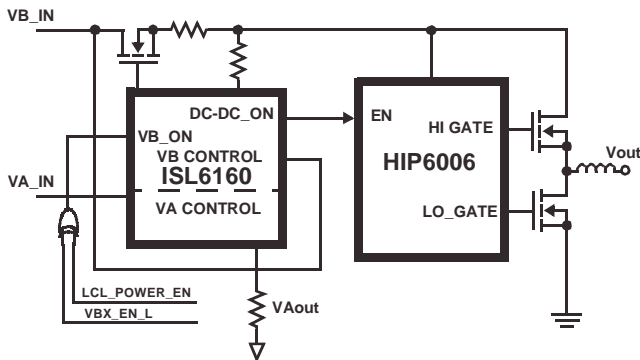
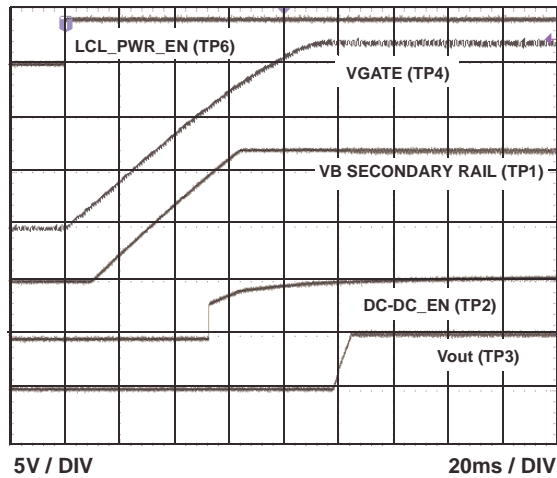

FIGURE 2. SIMPLIFIED ISL6160EVAL2 BLOCK DIAGRAM
FIGURE 19. ISL6160EVAL2 Vout TURN-ON
On the IM the ISL6160 is necessarily paired with a DC-DC converter to convert 12V to a lower usable voltage for the application circuitry. Figure 2 shows a block diagram of a complete IM power sequencer and power supply using the ISL6160 and a HIP6006, single output PWM DC-DC converter.
Available from Intersil is the ISL6160EVAL2. The ISL6160EVAL2 is a complete InfiniBand Class I (non isolated) power topology evaluation platform consisting of the ISL6160 and the HIP6006 single output PWM controller. See Figure 2 for a simplified block diagram of the ISL6160EVAL2 platform. This evaluation platform allows the Infiniband Module (IM) power supply designer to evaluate the concept of this design and apply it to a specific IM power requirement. The evaluation platform is configured for 5V  $V_{out}$  and 3A  $I_{out}$  capability and exhibits a 92% total efficiency. See Figures 19 and 20 for ISL6160EVAL2 turn-on and turn-off waveforms.